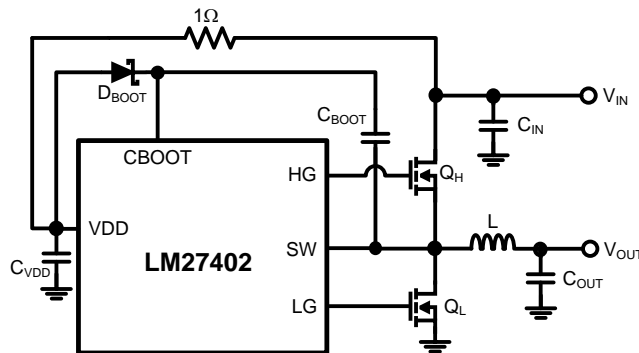

Figure 40. Tie VDD to VIN when VIN ≤ 5.5V
IDBOOT is the average current through the DBOOT diode, fSW (Hz) is the switching frequency and QGHS (C) is the gate charge of the high-side MOSFET. If the input voltage is below 5.5V, it is recommended to connect VDD to the input supply of the LM27402 through a 1Ω resistor shown in Figure 40. This will increase the gate voltage of both the low-side and high-side FETs.